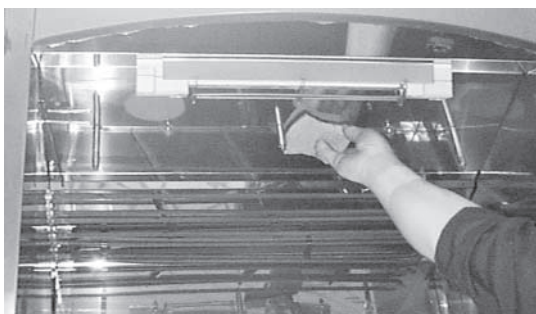

Fig. 51
6. Clean ceiling of oven interior around elements and convection fan shafts (Fig. 51).